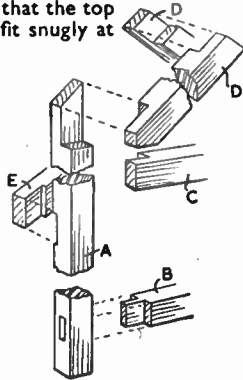

Fig. 3—Joints of the centre frames
The back end frame is constructed exactly as shown, and the joints to be used are similar to those shown in Fig. 3, the centre frame. Note that piece (E) is halved completely in place in the back frame, while in piece (E) of the centre frame, the